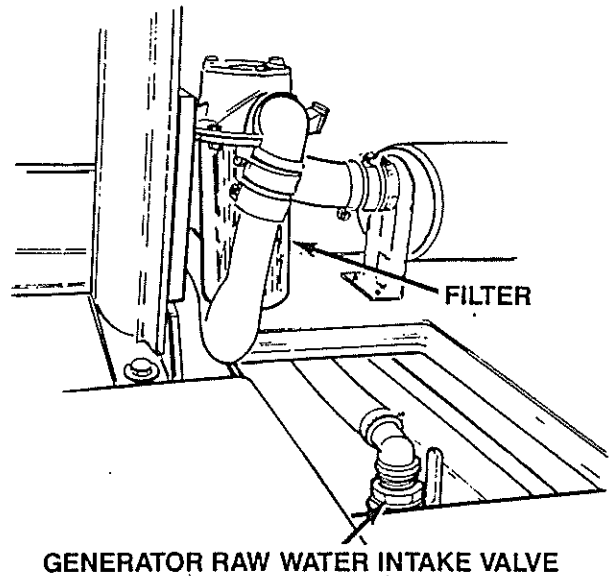

Figure 3-9 Generator Raw Water Intake Filter and Valve
13. See Figure 3-9. Check that water filter is clean. Open generator raw water intake valve. Valve is open when handle is in line with hose.